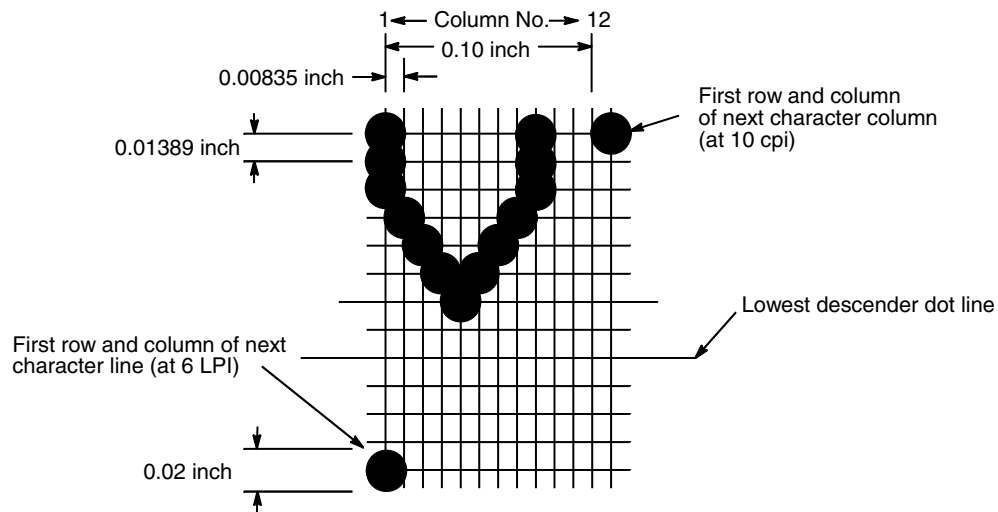

Figure 57. A Dot Matrix
Every text character is stored in printer memory as a pattern of dots on a logical grid called the dot matrix. (Figure 57.) The ink dots that appear on the paper are made by a row of hammer springs mounted on a shuttle that sweeps rapidly back and forth. Logic circuits on the controller board divide every line of incoming print data into horizontal dot rows. The hammers put dots at the required positions for the entire line by driving an inked ribbon onto the paper.
The dot matrix patterns of text characters vary according to the font the user selects. For example, in the data processing (DP) font at a line spacing of six lines per inch (lpi), a dot matrix contains 12 dot rows from the top of one character line to the top of the next. (Figure 57 and Figure 58.) At eight lpi there are nine dot rows per character line, at nine lpi there are eight dot rows per character line, and so on.